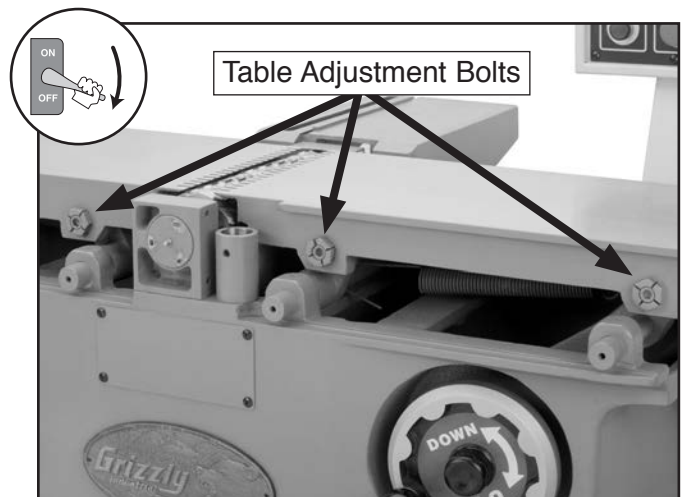

Figure 71. Front table cover removed to expose the table adjustment bolts.
8. Loosen the cap screw in the center of the outfeed table adjustment bolt three full turns, then loosen the set screw that is directly underneath the adjustment bolt (see **Figure 71**).
9. The adjustment bolt shaft is cam-shaped, as shown in **Figure 71**, and connects the table to the lifting arm. Rotate the adjustment bolt in very small increments to raise or lower the front corner of the outfeed table until the surface is the correct height above the cutterhead, as instructed in **Step 4**.
11. When the outfeed table height is correct and parallel to the cutterhead, re-tighten the adjustment bolt cap screw and set screw (see **Figure 71**), then make sure the table lock is tightened.